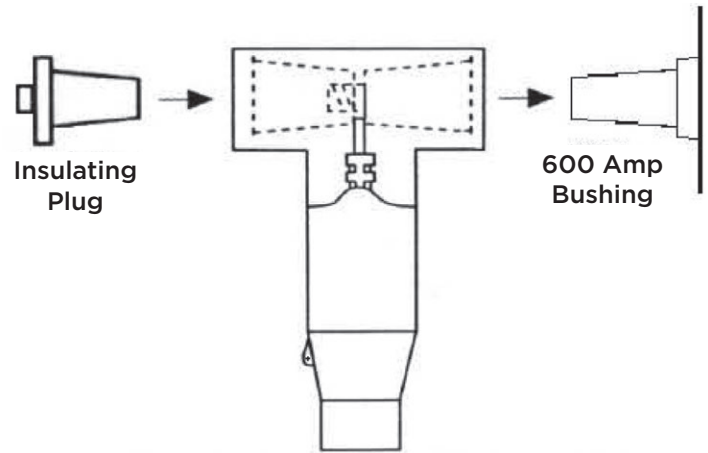

Fig. 11 - Assembly to Bushing Well
- C. Align the T-Body to the apparatus bushing interface. Insert the insulating plug and hand tighten to prevent cross-threading. Tighten the insulating plug to 50-60 ft-lbs of torque using a 1" socket and a torque wrench. (See Figure 11.)